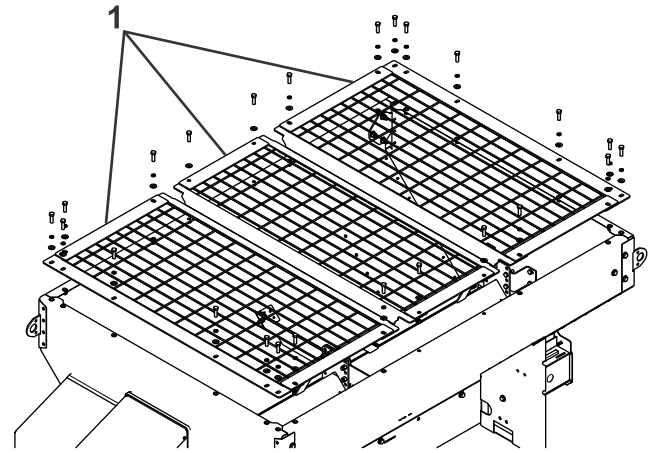

Figure 3
6. Remove and retain the fasteners securing the top screens to the spreader (Figure 3).